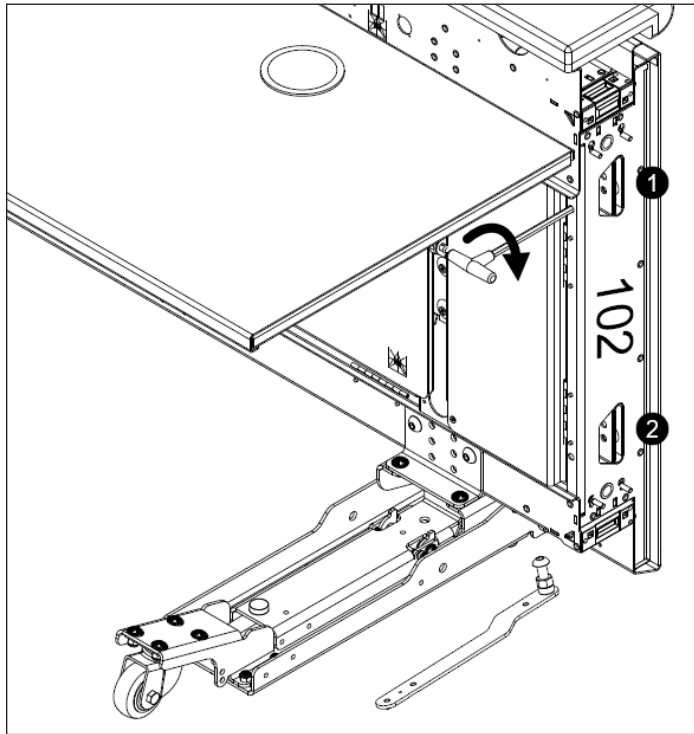

Figure 35: Latch Locations and T-Handle Wrench
- Using the provided 5/16" T-handle hex wrench, latch both latches on the left table to the right table (as viewed from the rear). The wrench must be rotated 285° or a little over a 3/4 turn to fully engage the latch. Refer to **Figure 35** for the location of these latches and proper T-handle wrench rotation. If it is difficult to turn the T-handle wrench, verify tables are pushed tightly together and aligned front-back.